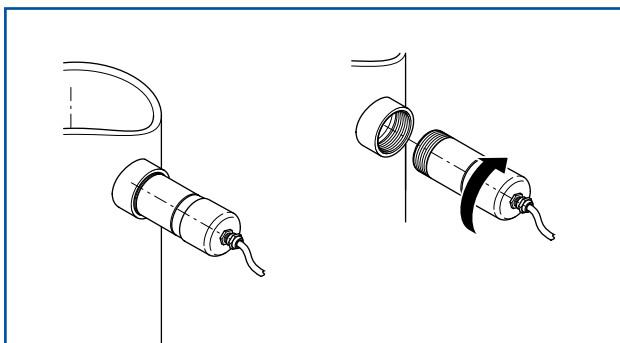

Fig. 3: Thread mounting
- in a G-1½" threaded connector (Fig. 3)